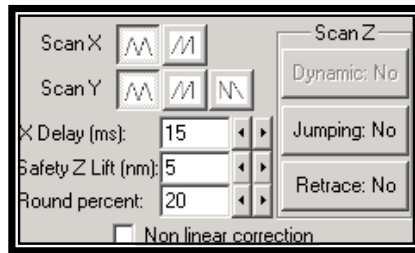

Fig. 4.39
21. In the Scan Options (see Fig. 4.39) select *Dynamic: No*, *Jumping: No* and *Retrace: No*. Then the system will work in Contact Mode.